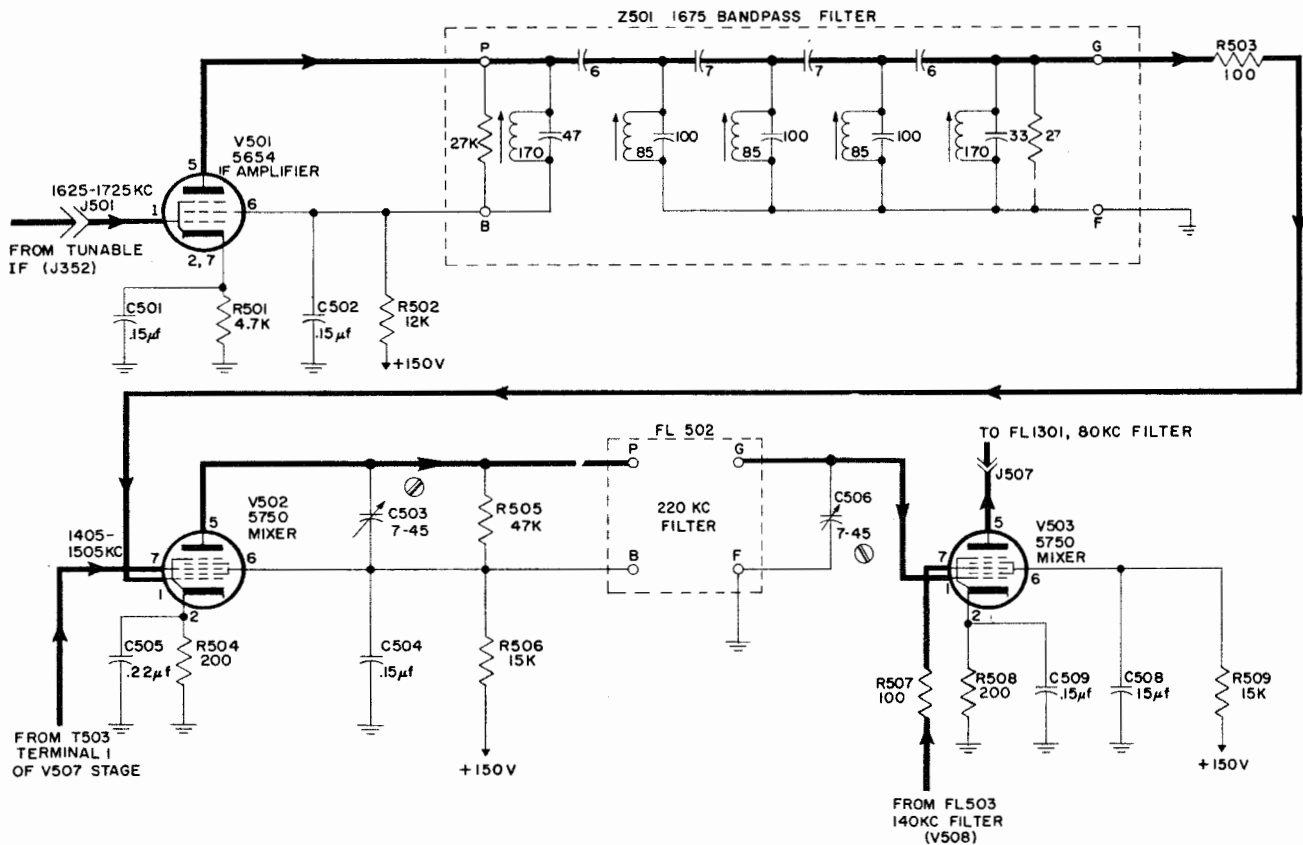
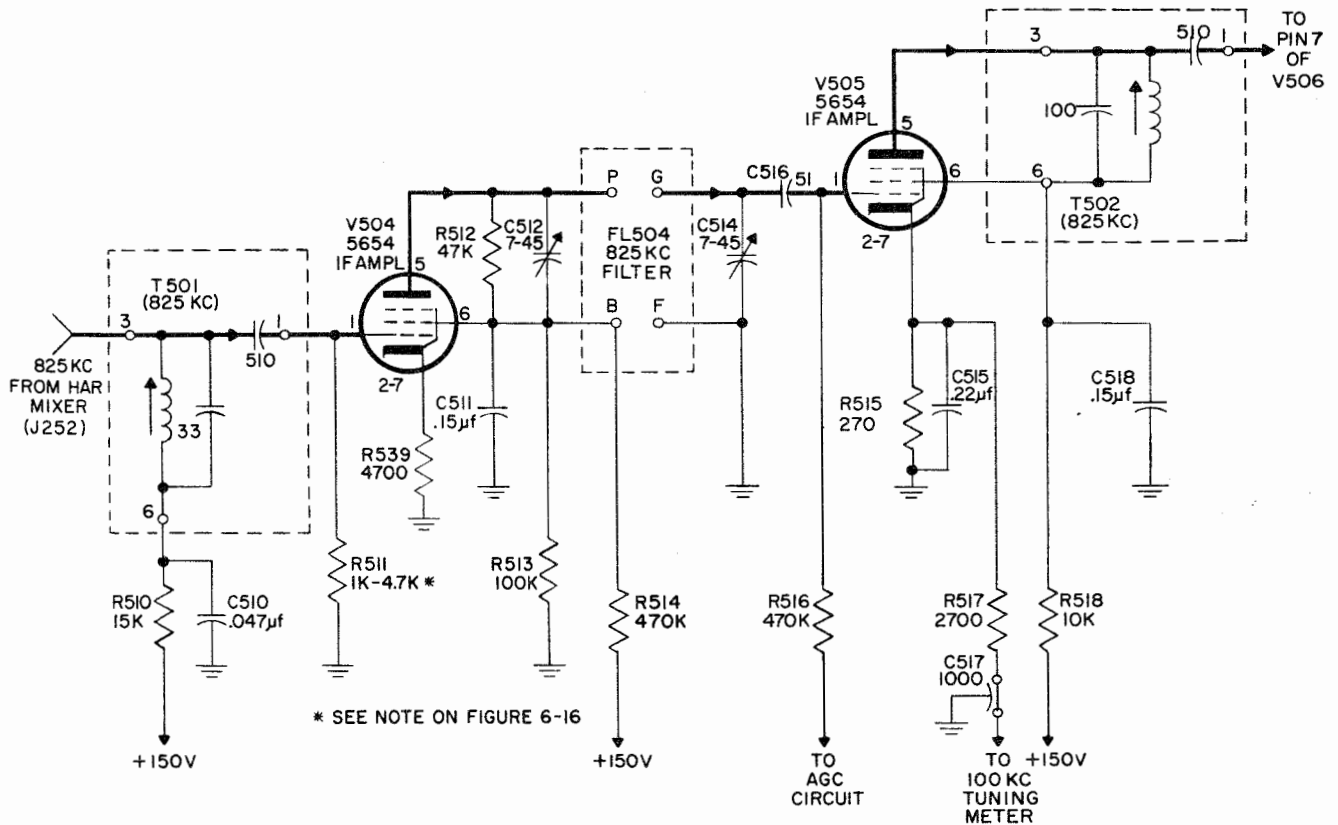
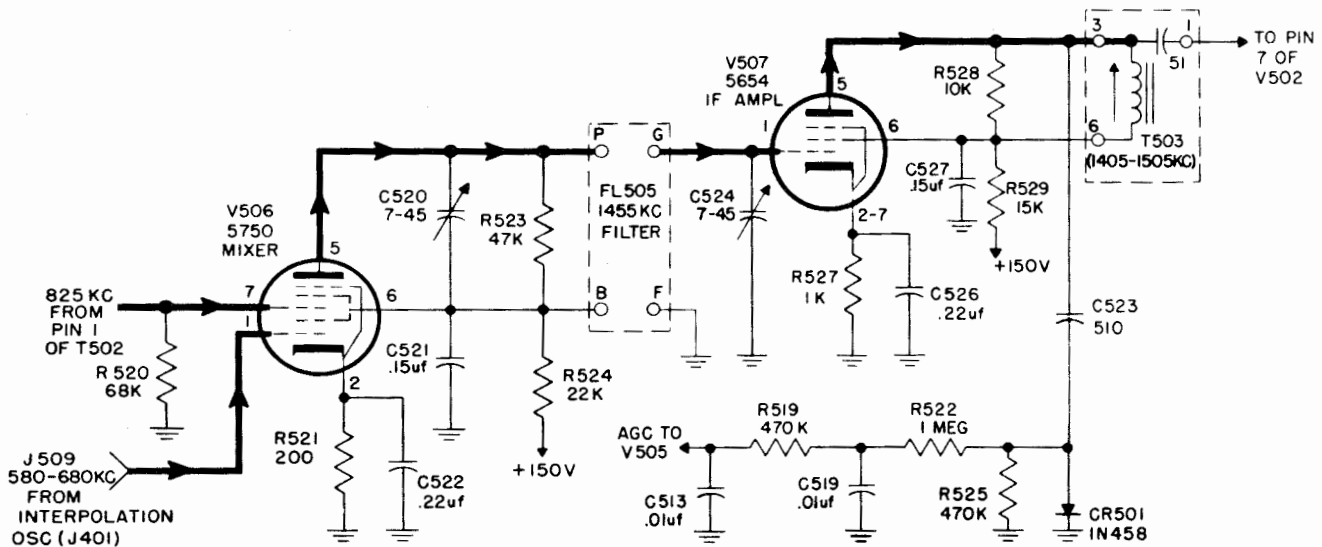

Figure 4-12. IF Amplifier V501 and Mixers V502 and V503, Simplified Schematic Diagram
Figure 4-13. IF Amplifiers V504 and V505, Simplified Schematic Diagram
Figure 4-14. Mixer V506 and IF Amplifier V507, Simplified Schematic Diagram
c. IF AMPLIFIER V501, MIXERS V502 AND V503.—As shown in figure 4-12, the output of the tunable IF filter is supplied to IF amplifier V501 through J352 and J501. The plate load of V501 is bandpass filter Z501. Filter Z501 has a 100 kc bandpass with a center operating frequency of 1,675 kc. The output of the filter is applied to grid 1 (pin 1) of mixer tube V502. The second signal required for mixing action is applied to the other input, grid 3 (pin 7) of V502. This signal is obtained from T503 which is the output load of IF
d. IF AMPLIFIERS V504 AND V505.—As shown in figure 4-10, the development of the 1,405 to 1,505 kc signal used by mixer V502 is dependent on inputs from the interpolation oscillator (580 kc to 680 kc) and the harmonic mixer (825 kc). The 825 kc input from the harmonic mixer enters the injection IF amplifier at terminal 3 of T501 (figure 4-13). Intermediate frequency unit T501 is tuned to 825 kc and develops the input signal which is applied across R511 (grid resistor of V504). The output of IF amplifier V504 is impressed across bandpass filter FL504, the center operating frequency of which is 825 kc. This filter passes all signals in the range of 810 kc to 840 kc. The output of FL504 is applied to IF amplifier V505 through
coupling capacitor C516. The plate load of V505 is another intermediate frequency unit (T502, with characteristics similar to those of T501). The output from T502 is applied to pin 7 of V506 (figure 4-14). An AGC voltage, developed at the output circuit of V507, is applied to the control grid of V505 (figure 4-13). When the signal amplitude tends to increase, a greater negative AGC voltage is applied to V505. This reduces the gain of the amplifier, thus reducing the amplitude of its output. Conversely, a decrease in amplitude results in a less negative AGC voltage applied to V505 and a corresponding increase in signal amplitude at mixer V506 (figure 4-14). Provisions for monitoring the plate current are provided in the cathode circuit of V505 (figure 4-13). This feature is used when the receiver is tuned (TUNING $\Delta F=100$ KC control).
e. MIXER V506, IF AMPLIFIER V507.—As shown in figure 4-14, mixer V506 receives inputs from T502 (825 kc) and from the interpolation oscillator (580 kc to 680 kc) through J509. These inputs are mixed in V506 and supplied to bandpass filter FL505. The output of V506 contains signal components of the following frequencies: (1) 580 to 680 kc, (2) 825 kc, (3) the difference between 825 kc and the 580-to-680 kc range, and (4) the sum of the 825 kc and the 580-to-680 kc range. Since filter FL505 is tuned to the 1,405-to-1,505 kc range, only the sum frequency component of the V506 output will be passed to pin 1 of V507. The amplified output of V507 is developed at T503 and applied to mixer V502 (figure 4-12). A portion of the V507 output is coupled to AGC diode CR501 through capacitor C523. The shunt-connected diode clamps the positive half-cycle of the output signal to ground but allows the negative half-cycle to continue on through to an RC filter network comprised of R525,
R522, C519, R519, and C513. The negative AGC voltage built up in the RC filter network is supplied to the control grid of V505 (figure 4-13). The extent of this negative voltage depends on the amplitude of the incoming signal to IF amplifier V507 (figure 4-14).
The 80 kc filter (FL1301) accepts the 80 kc intermediate frequency developed by mixer V503 (third conversion mixer figure 4-12) and passes it to two detector-amplifier sections of the demodulator. The filter has a center operating frequency of 80 kc with a 12 kc bandwidth. The 80 kc input is applied to the filter through connector J1301. The output of FL1301 is applied to the USB detector-amplifier through connectors J1302